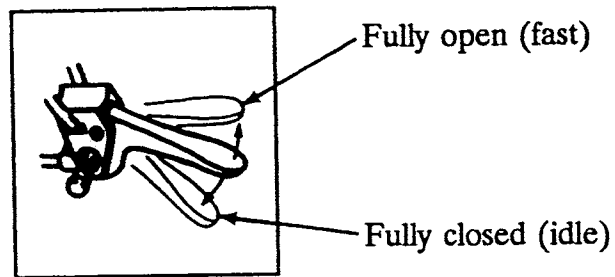

Figure 3
1. Put the throttle in fully closed (idle) position. See Figure 3.